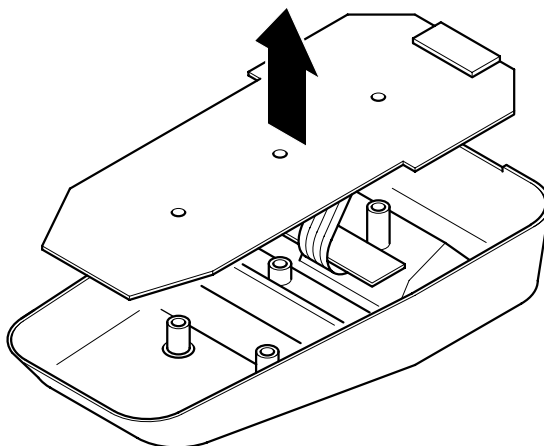

Figure 21: Charger PCB removal (1)
4. (Figure 21) Raise and tilt the charger PCB to expose the connector cable.